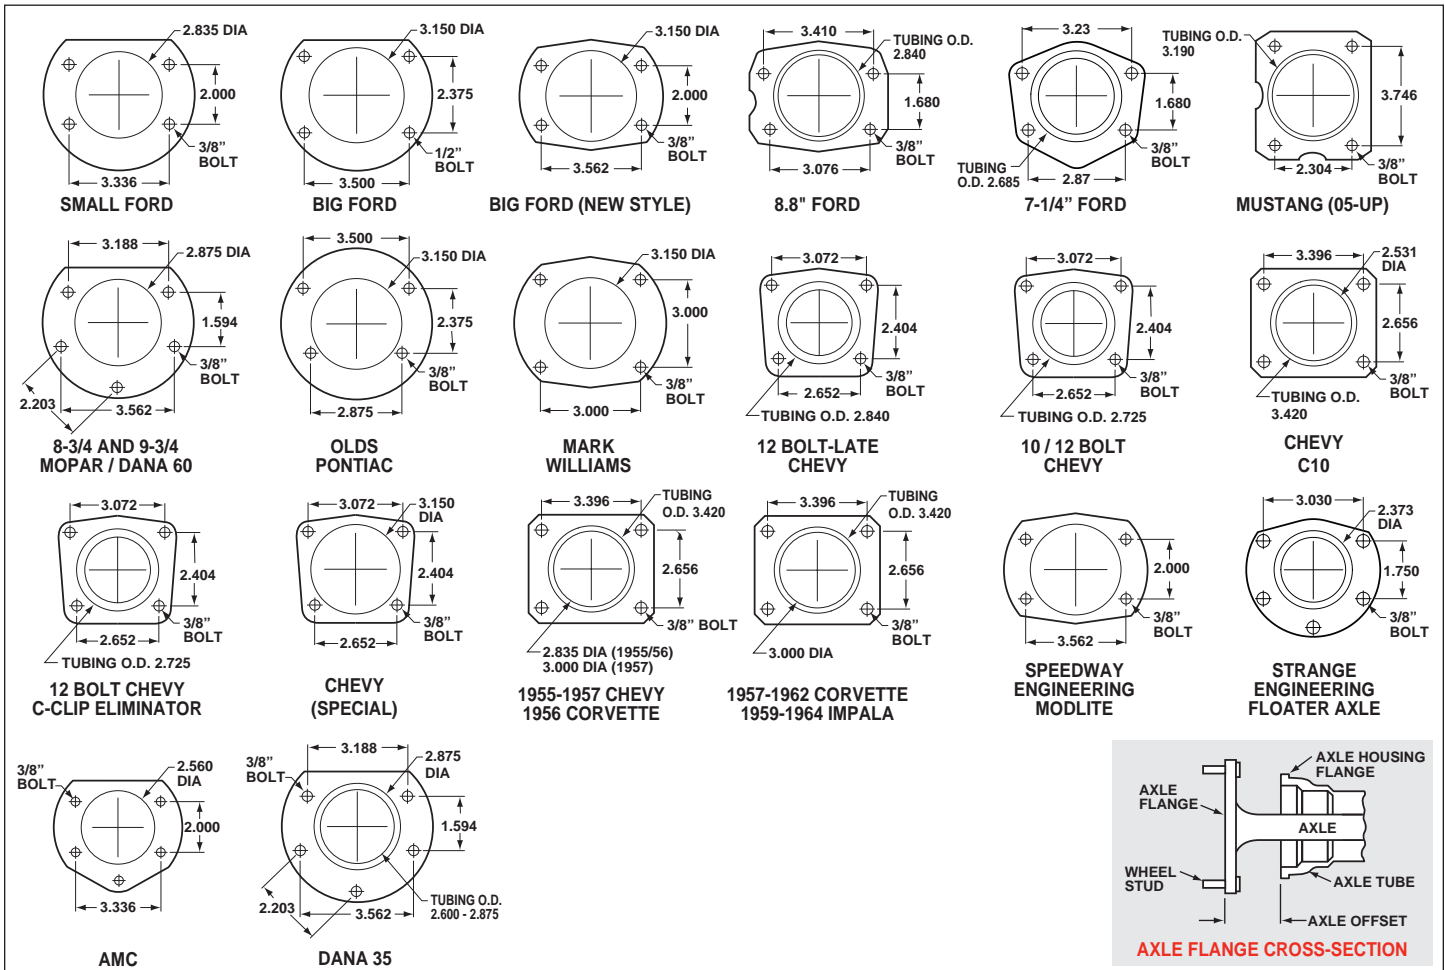

Figure 5. Rear Housing Flange Chart and Axle Flange / Offset Cross-Section
- Make sure this is the correct kit to fit the axle housing flange, not necessarily the rear end make. Many times after market manufacturers put a different make of axle housing flange on the stock rear end housing (see Figure 5). Example; Big Ford rear ends with Olds-Pontiac flanges, therefore, an Olds-Pontiac rear disc brake kit would be the correct kit to order. Also, shock clearance may be a problem. They may have to be modified and/or relocated to clear the Wilwood kit after final assembly.
- Dimension from wheel side of axle flange to wheel side of axle housing flange (see Figure 5, axle flange cross-section). This dimension is critical to ensure proper alignment of the rotor to the caliper, and should match offset given in the kit description.